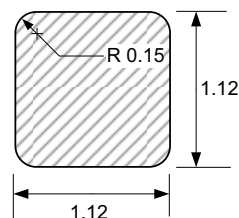

Figure 3.11. LGA-42 PCB Stencil and Via Placement
6. Place vias in E-pad as shown in Figure 3.11.
8. Place ground pad openings as shown in Figure 3.11.